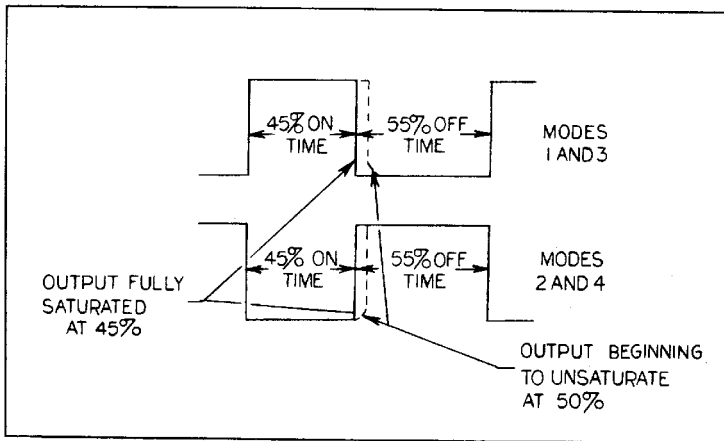

Figure 5-5.
- e. Adjust the SYMMETRY potentiometer R9 for a 45% "on time" as shown in Figure 5-5.
- c. Start the reader and observe all outputs. Refer to Section 3.3, step i. They should be of the form shown in Figure 5-5, fully saturated throughout the "on time".
- j. Reduce the bias (increase the negative value) until one of the track outputs just begins to come out of saturation. Refer to Figure 5-5.